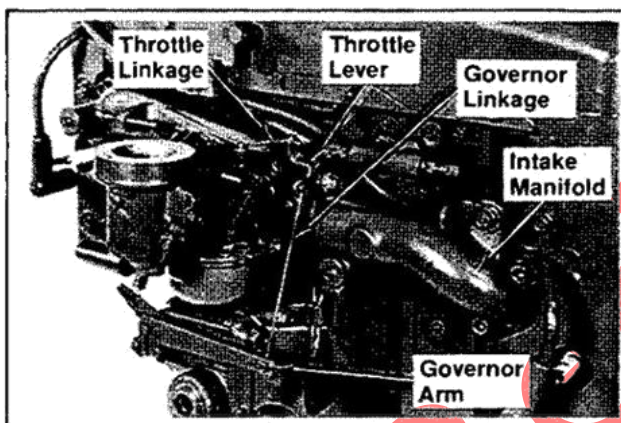

Figure 9-7. Removing External Governor Components.
6. Remove the throttle linkage from throttle lever on carburetor and throttle lever on intake manifold. Refer to Figure 9-7.